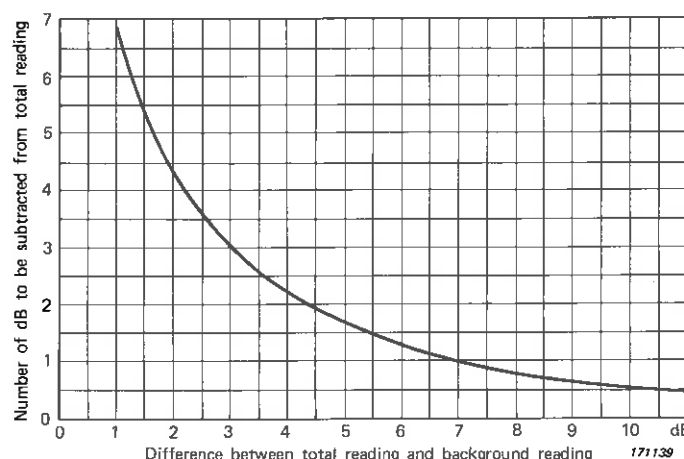

Fig.3.3. Correction for the influence of high background noise levels
9. If it is necessary to make measurements where there is a lot of background noise, the background noise will contribute to the levels measured. A correction can be made. Noise levels should be recorded for the object being measured plus background, and for the background alone. Corrections are made according to the chart in Fig.3.3.